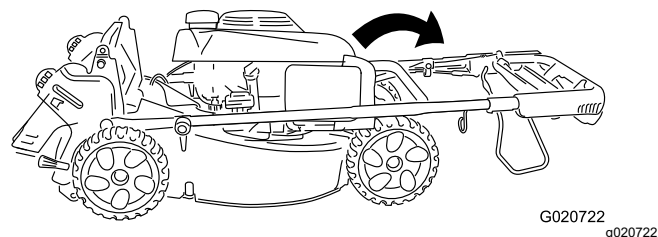

Figure 22
2. Rotate the entire handle forward (Figure 22).